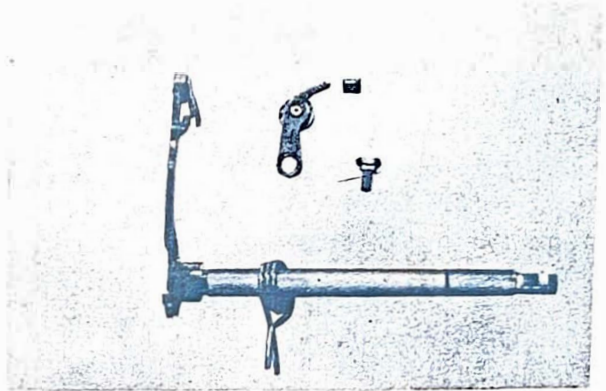

Fig. 4-12-4
B. Checking the gear shift parts (Fig. 4-12-4)